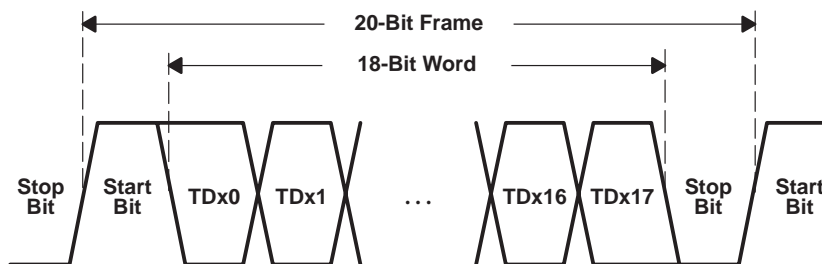

Figure 3. Serial Output Data Stream With Start and Stop Bit
All true serial interfaces require a method of encoding to ensure minimum transition density so that the receiving PLL has a minimal number of transitions in which to stay locked onto the data stream. The signal encoding also provides a mechanism for the receiver to identify the word boundary for correct deserialization. The TLK4250 transceiver wraps a start bit (1) and a stop bit (0) around the 18-bit data payload as shown in Figure 3. This is transparent to the user, as the transceiver internally adds the framing bits to the data such that the user reads and writes actual 18-bit data.
The parallel-to-serial shift register takes in the 20-bit-wide frame multiplexed from the framing logic and converts it to a serial stream. The shift register is clocked on both the rising and falling edges of the internally generated bit clock, which is 10 times the GTx_CLK input frequency. The LSB (TDx0) is first out after the start bit as shown in Figure 3.